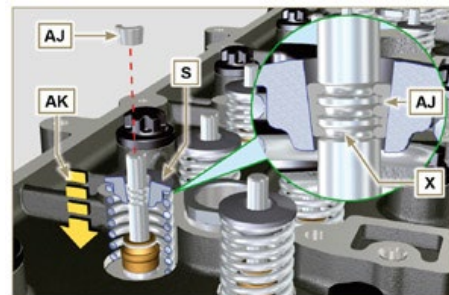

Fig 9.44
3. Check protrusion of injectors by means of the tool **ST_03** (Fig. 9.44), check the projection of the injector, which must range between 1.68 ÷ 2.42 mm.